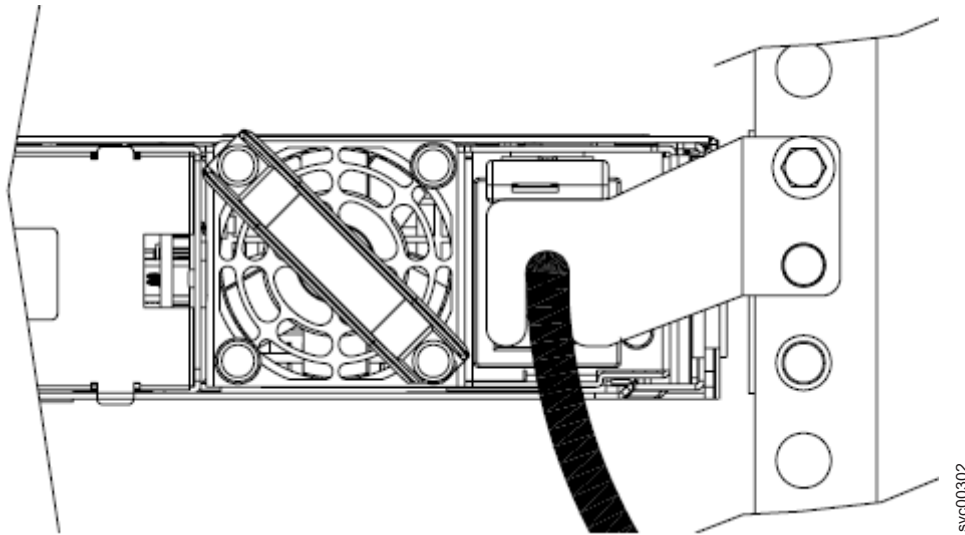

Figure 23. The SAN Volume Controller 2145-8G4 with cable-retention bracket type B attached
1. Remove the securing bolt from the node side rail (shown in Figure 23) next to the power supply.